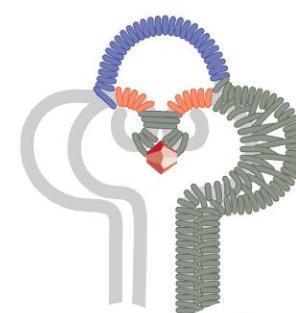

figure 18
- 31** Coil around the top of the filigree frame. Pull the weaving wire straight across where the two filigree loops are coiled together, then continue coiling the second loop. Trim the weaving wire tail (Figure 18).